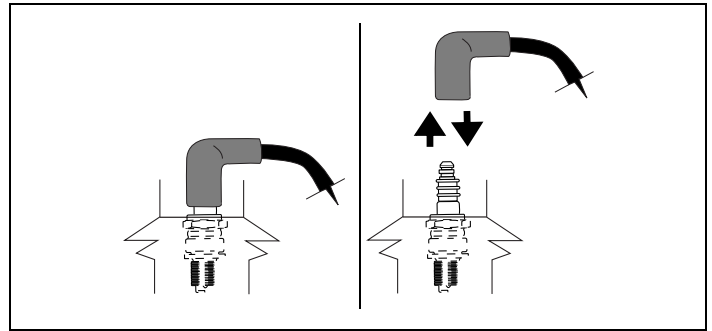

Figure 37. Disconnecting/Connecting Spark Plug
1. Disconnect spark plug wire and keep it away from spark plug. "G. Avoid Accidental Starts" instructions on page 2. See Figures 37 and 38 on next page.